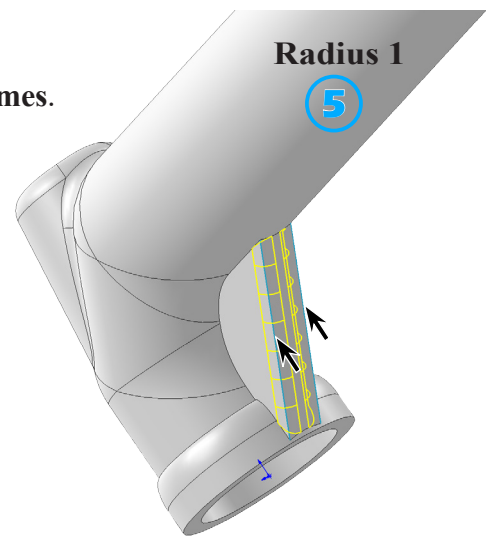

Fig. 46
- ⑤ Radius  1
click edges of Rib (2), Fig. 46